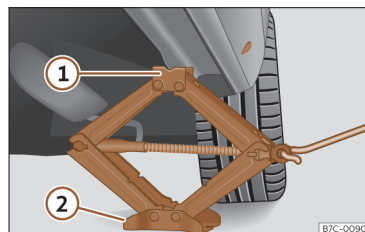

Fig. 245 Crossbar: mounting the jack on the vehicle.
- Turn the jack crank handle, located below the crossbar support point, to raise it until the tab **①** >>> **Fig. 245** is below the housing that is provided.
- Align the jack so that the tab **①** "grips" onto the housing provided on the cross member and the mobile base **②** is resting on the ground. The base plate **②** should fall vertically with respect to the support point **①**.